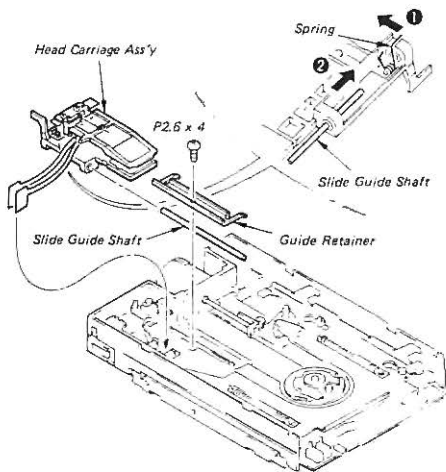

Fig. 4-9 Head Carriage Ass'y Replacement
- Remove the screw (P2.6x4) securing the Guide Retainer and then remove the Guide Retainer, Head Carriage Ass'y and Slide Guide Shaft. (Refer to Fig. 4-9)
Note: The spring of Head Carriage Ass'y, that is located in around shaft hole, should be installed inside so that the Guide Shaft is forced outwardly by the spring force, as shown in Fig. 4-9.
- Put the Head Carriage Ass'y and the Slide Guide Shaft in place, and install the guide retainer with a screw (P2.6x4). (Refer to Fig. 4-9)